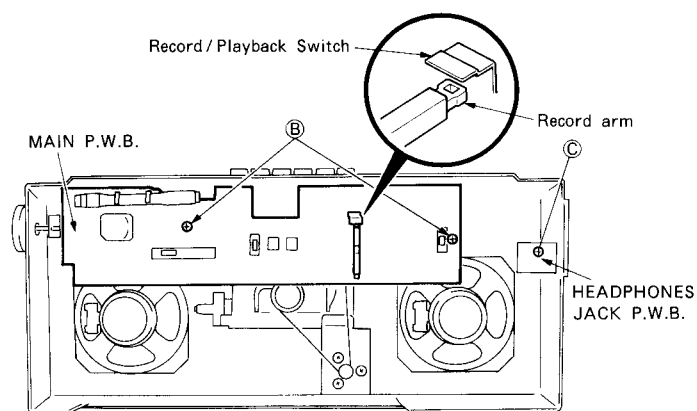

Fig. 4
- (3) Remove the 2 screws ⑧. (Fig. 4)
4. Removing the HEADPHONES JACK P.W.B. (Fig. 4)